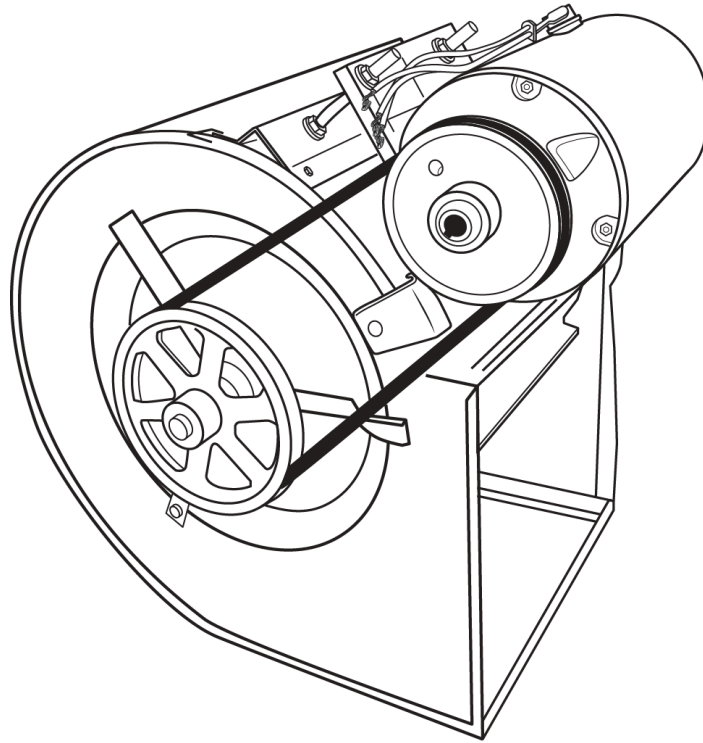

Figure 13 Belt-driven blower. (Skilled Trades BC, 2021) Used with permission.
The blower is a squirrel-cage-type fan positioned between the filter and the heat exchanger. Air is pulled through the filter and pushed across the heat exchanger into the main supply plenum. Older models were driven by a belt connected by pulleys or sheaves to an alternating current (AC) single-speed electric motor (Figure 13). The speed of the blower could be increased or decreased by altering the position of the belt within an adjustable pulley mounted on the motor's shaft. Blowers can still be found today in appliances, such as rooftop heating and cooling units, which can be built larger to accommodate the extra room needed for the fan and motor.